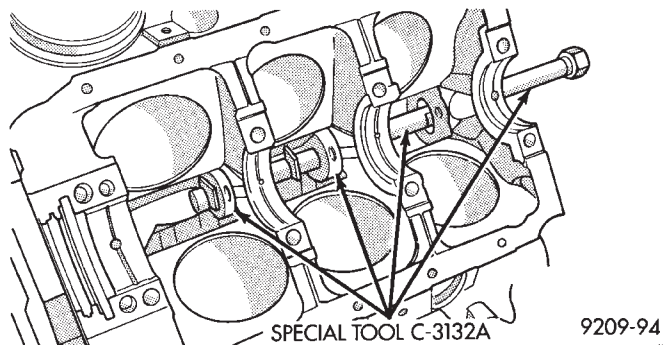

Fig. 13 Removed Installation of Camshaft Bearings with Tool C-3132A—Typical
(1) With engine completely disassembled, drive out rear cam bearing core hole plug.
(2) Install proper size adapters and horseshoe washers (part of Tool C-3132-A) at back of each bearing shell to be removed and drive out bearing shells (Fig. 13).